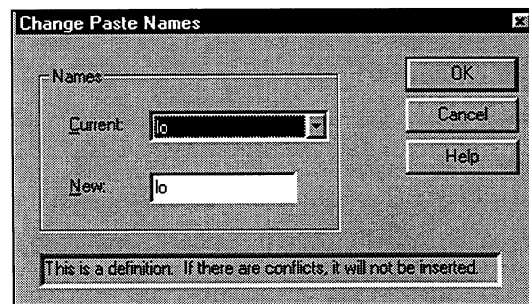

Figure 10-9. Change Paste Names Dialog Box
4. In the Application Navigator, select the Paste command on the Edit menu. The Change Paste Names dialog box appears, as shown in Figure 10-9.